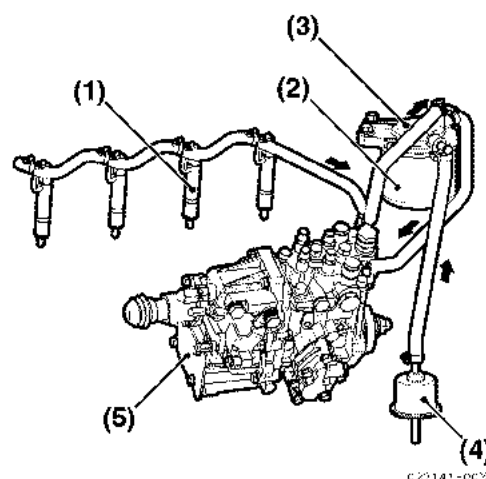

Figure 3-50
3. Turn the electric fuel feed pump (**Figure 3-50, (4)**) on to release air out of the fuel return line.